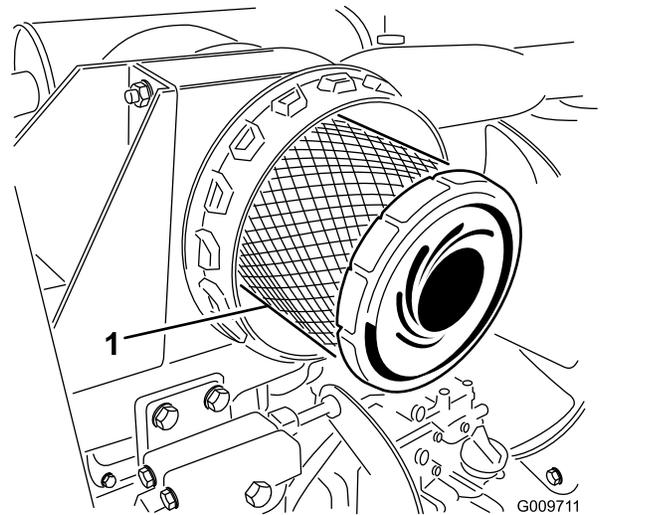

Figure 28
3. Remove and replace the primary filter (Figure 28).